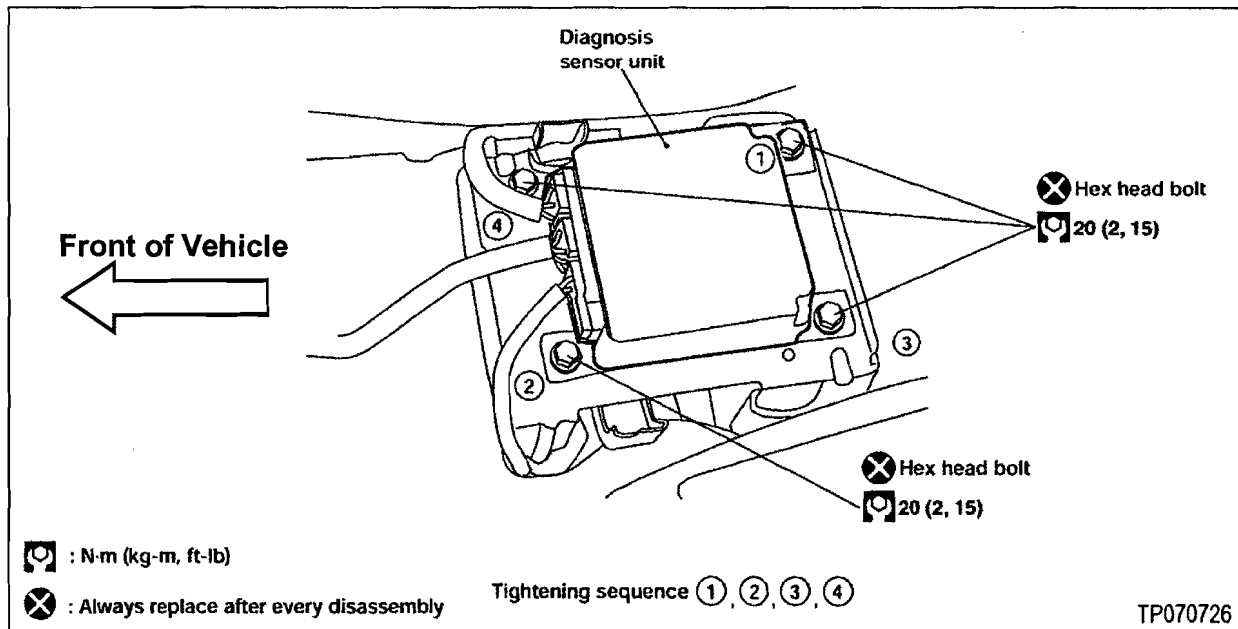

Figure A9
- b. Remove and discard the hex head bolts shown in Figure A9.
- e. Tighten bolts in the order shown in Figure A9.